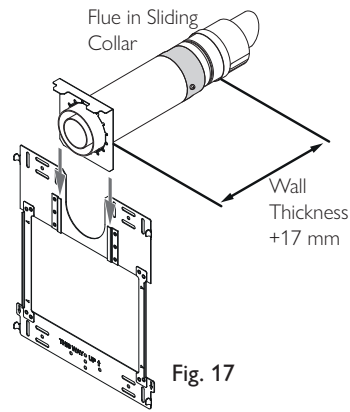

Fig. 17
2. Drill & plug the fixing points. Cut the hole for the flue  $\text{\O}150$  mm. Measure the wall thickness and add 17 mm. Adjust the telescopic flue to length after locating and securing it in the sliding collar with the screws supplied. Tape and secure the flue (Fig. 17).